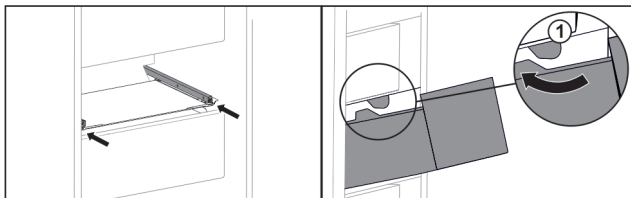

Fig. 37
- ▶ Guide the drawer around the stoppers Fig. 37 (1).*